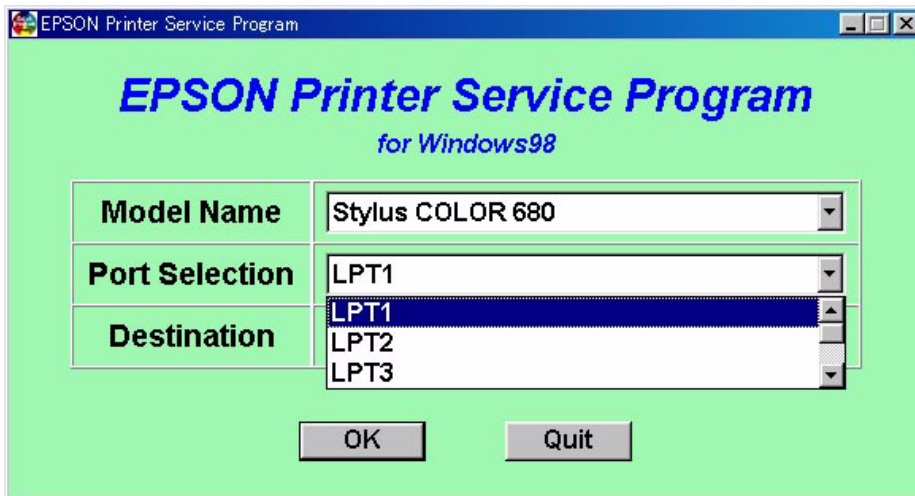

Figure 5-2. Model Name Selection
2. Select the Interface port number which you connect the printer to your PC as above Figure 5-2, "Model Name Selection"